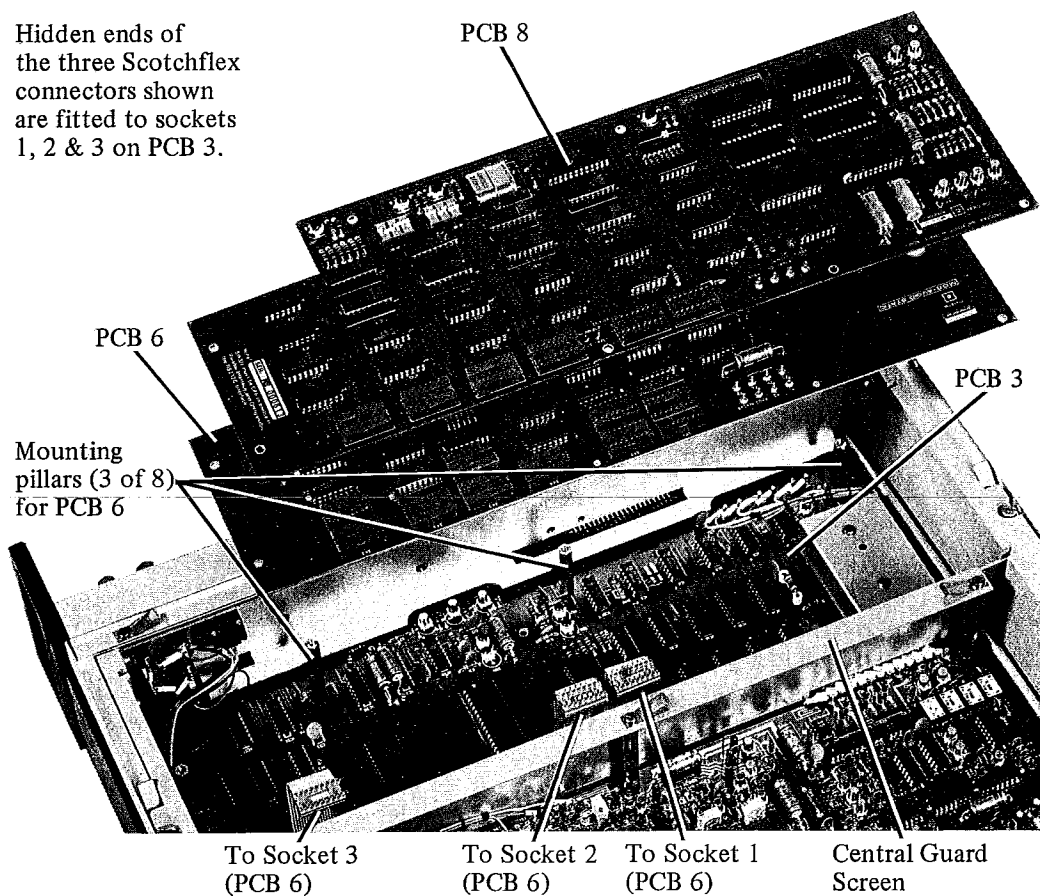

Fig. 2 Fitting PCB 6 (and PCB 8) to the instrument
3. Remove central guard screen. (Fig. 2.)